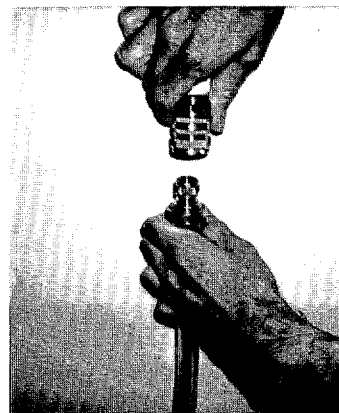

Fig. 4
5. Remove pump-in system hose from water storage tank and insert it into antifreeze premix jug. (fig. 4)